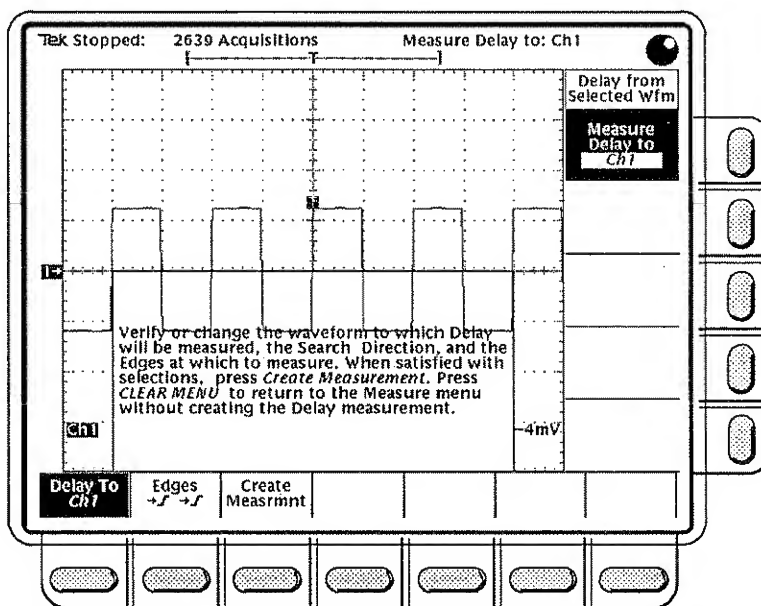

Figure 3-32: Measure Delay Menu – Delay To
The delay measurement measures from the selected waveform to another waveform, which you specify. When you select this measurement, the oscilloscope prompts you for further information by displaying the menu (Figure 3-32). This allows you to specify the parameters needed to complete the delay measurement.
- ☐ **Step 1:** Press the Measure menu's **Delay** side menu button. This brings up the Measure Delay menu (Figure 3-32).
- ☐ **Step 2:** On the Measure Delay menu, press the button below the main menu item called **Delay To**. It provides a side menu with one item: **Measure Delay to** (Figure 3-32). Press the side menu button repeatedly or turn the general purpose knob to choose the Delay to waveform. The choices are: **Ch1**, **Ch2**, **Ch3** and **Ch4** (on the TDS 540), **Ax1** and **Ax2** (on the TDS 520), **Math1**, **Math2**, **Math3**, **Ref1**, **Ref2**, **Ref3**, and **Ref4**.